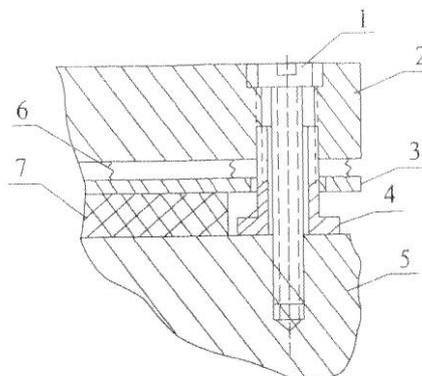

Figure 8: Electromagnetic Brake
4.3.1 Fix the hoists on the hoist-mounting frame with pins and M10 bolts: insert the pin into the hole at the low end of the hoist and at the mount frame, insert the M10 bolt into the two holes at the high end of the hoist and at the mount frame (see figure8 next page).